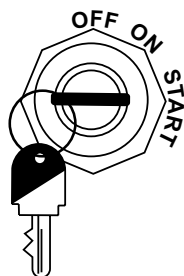

Figure 17. Engine Ignition Key
- Turn the engine ignition key (Figure 17) to the **START** position and hold it until the engine starts. When engine starts, release the key, allowing it to return to the **ON** position.